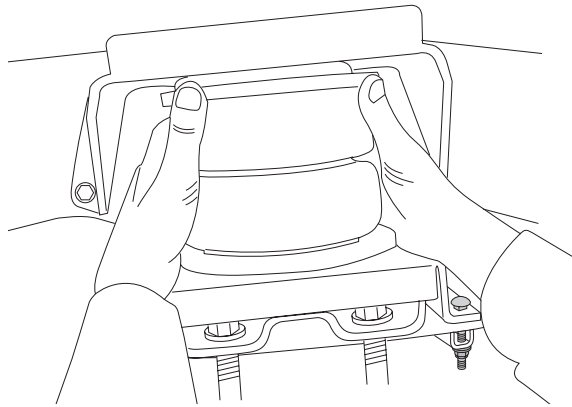

fig. 8
1. With the air spring hardware still loose, align the air spring inboard and outboard using the slotted holes for adjustment so that it is uniformly positioned between the brackets (Figure 8).